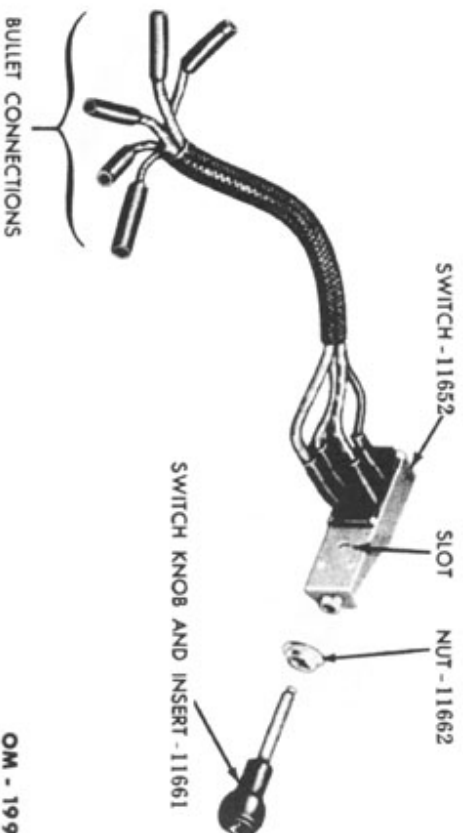

Figure 138—Head-Lamp Switch (Ford and Mercury).
(1) **FORD AND MERCURY PASSENGER CARS AND FORD TRUCKS** (fig. 138).